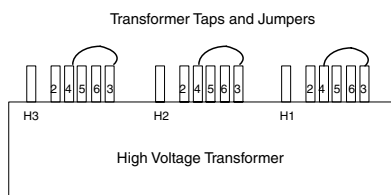

Figure 1-1 PDU Tap Positions (Rear)
- 3.) After you determine the nearest nominal line, verify the tap connections match (refer to Table 1-1 and Figure 1-1 for tap locations).